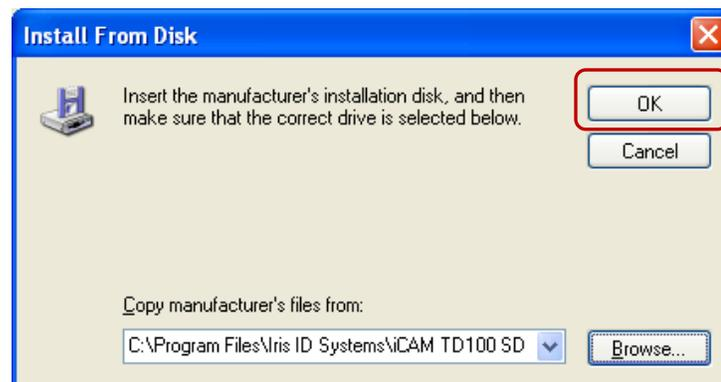

Fig. 14
- Press > **“OK”** button as shown in Figure 14, to proceed to next screen.